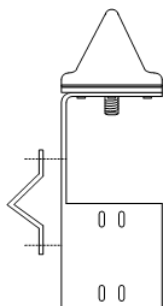

Figure 5.19 GPS antenna – installing the mounting clamp
3. When installing the antenna on a mast, use a size 1 cross-head screwdriver to fasten the mounting clamp on the holder of the GPS antenna with the cross-head screws, refer to Figure 5.19. The mounting clamp can be installed on the holder of the GPS antenna either horizontally or vertically.